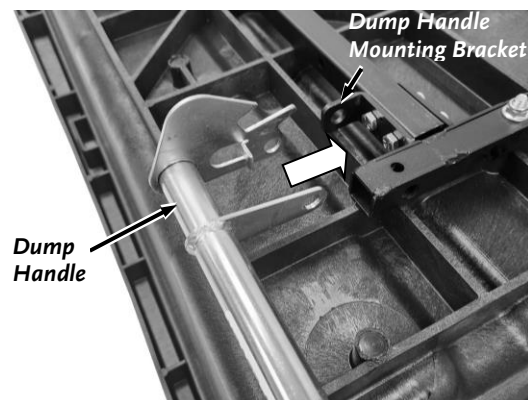

Figure 7
1. Position the Dump Handle at the right rear corner of the Bed where the Mounting Bracket is located (**Figure 7**).